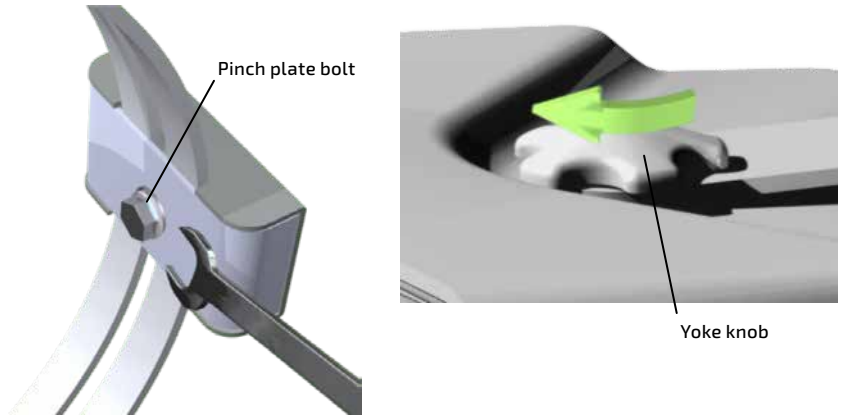

Figure 11. Secure loudspeaker aiming angle
2. Once in position, use an open-ended wrench and tighten the bolt firmly to lock the yoke into position (see Figure 11).
4. Once in position, re-tighten the yoke knobs by hand to secure the loudspeaker (see Figure 11). Use of thread locking adhesive or tools on these knobs is **NOT** recommended. (See WARNING on page 8).